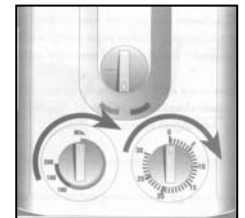

Fig. 11
- To pre-heat the oil, set the timer at 15 minutes turning the timer setting dial (#8) clockwise. Fig. 11